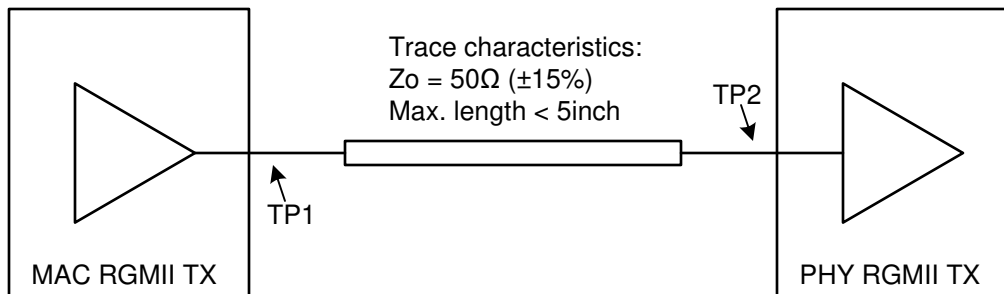

Figure 7-14. RGMII TX Requirements
- Figure 7-14 shows a RGMII interface requirements for TX* signals. MAC RGMII driver output impedance should be 50Ohm+/-20%.
- Skew for all RGMII TX signals at TP2, in Figure 7-14, should be <±500ps.
- Signal Integrity at TP1 and TP2, in Figure 7-14, should be verified with IBIS model simulation and ensured conformance to following requirements: